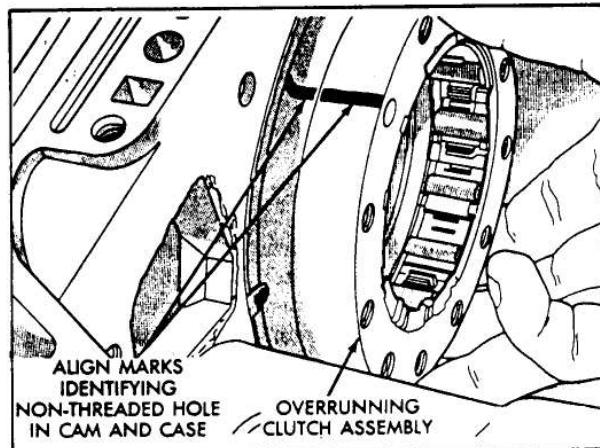

Figure 36
16. Align and install overruning clutch and cam into transmission case (See Figure 36).
19. Verify that your marks are aligned as shown in Figure 36.